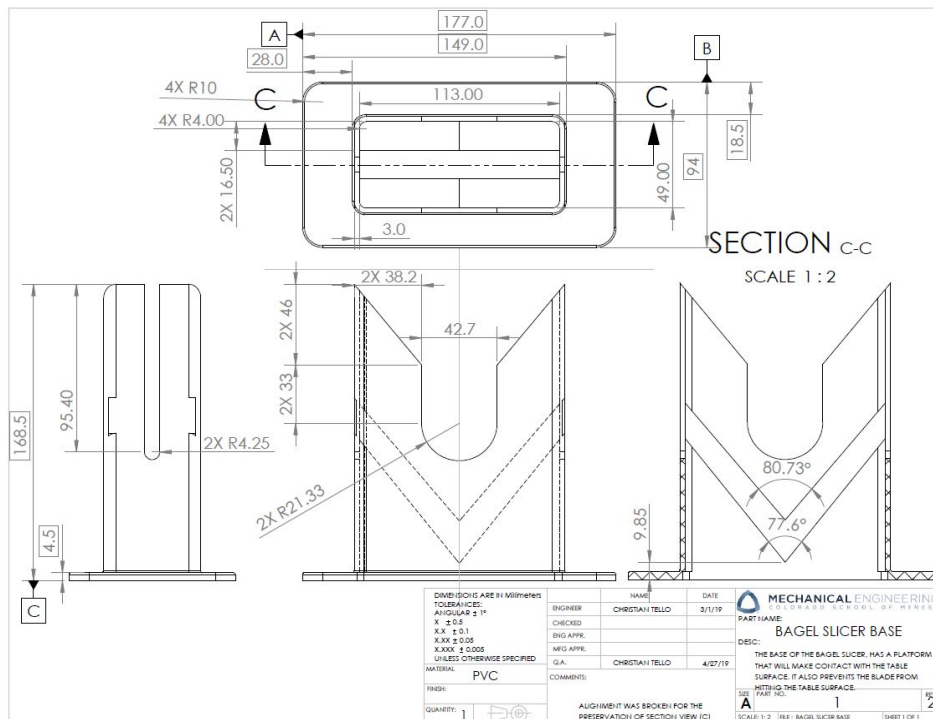
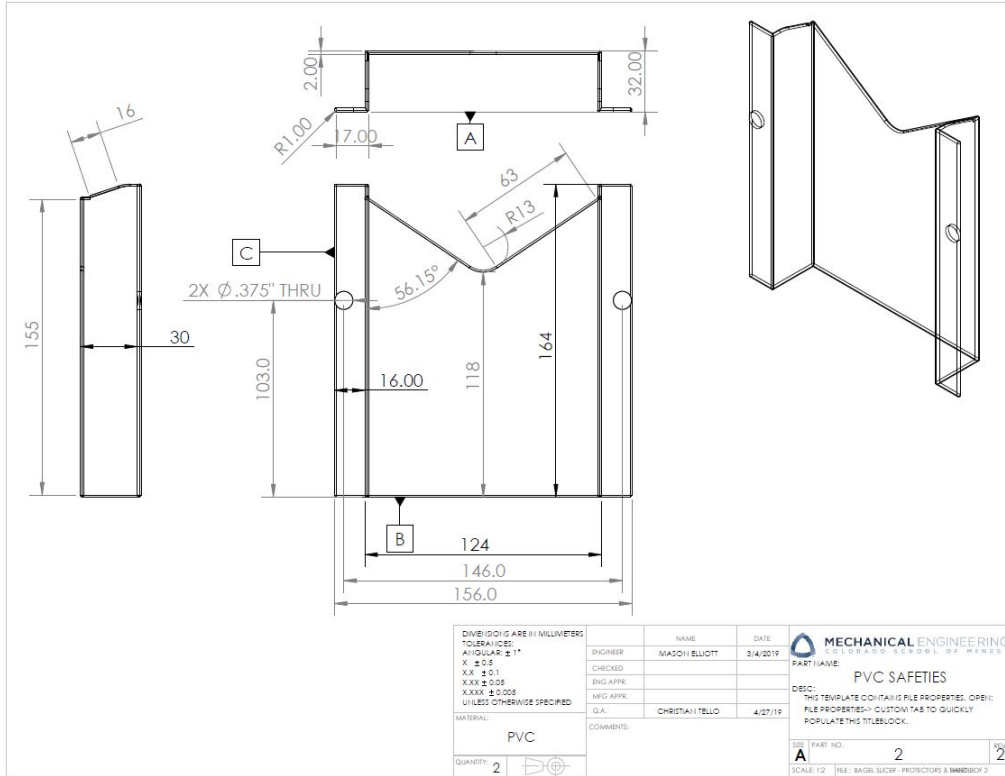
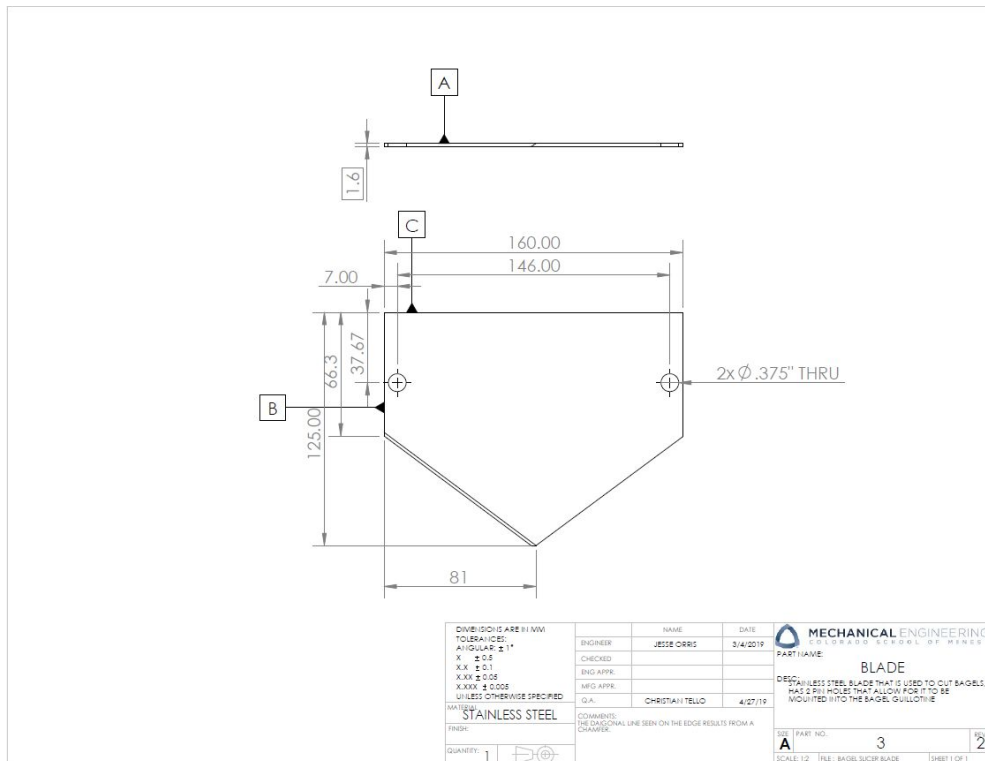
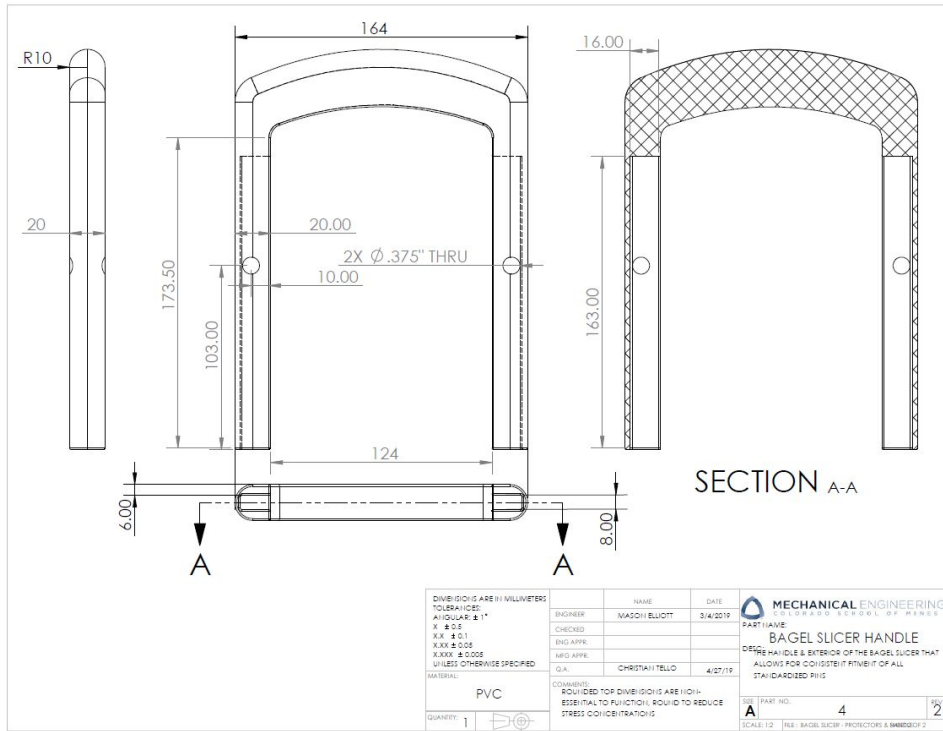

Figure 2. CAD Drawing of the Bagel Slicer Base
Figure 3. CAD Drawing of the Safeties
Figure 4. CAD Drawing of the Bagel Guillotine Blade
Figure 5. CAD Drawing of the Bagel Guillotine Handle
2. Set base aside (Figure 2), and locate safety covers (x2) (Figure 3), .375” pins (x2) (Standard Part), blade (Figure 4), and handle (Figure 5).